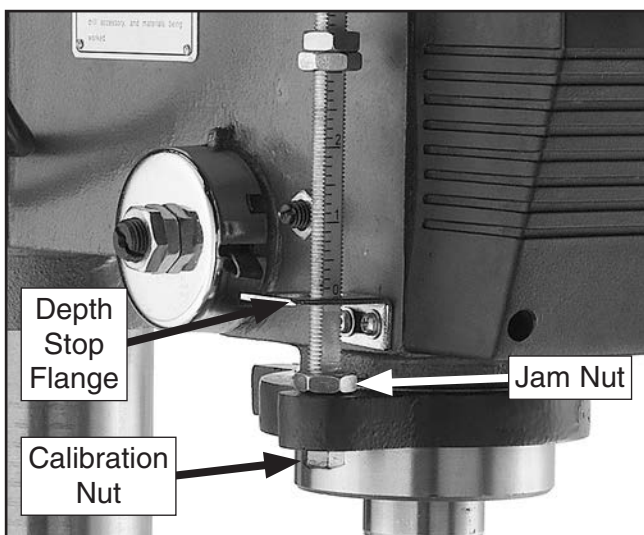

Figure 43. Depth stop assembly.
1. Loosen the jam nut and calibration nut shown in **Figure 43**.